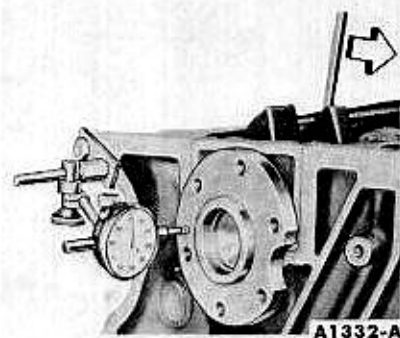

FIG. 36—Crankshaft End Play
12. Install a dial indicator so that the contact point rests against the crankshaft flange and the indicator axis is parallel to the crankshaft axis (Fig. 36).